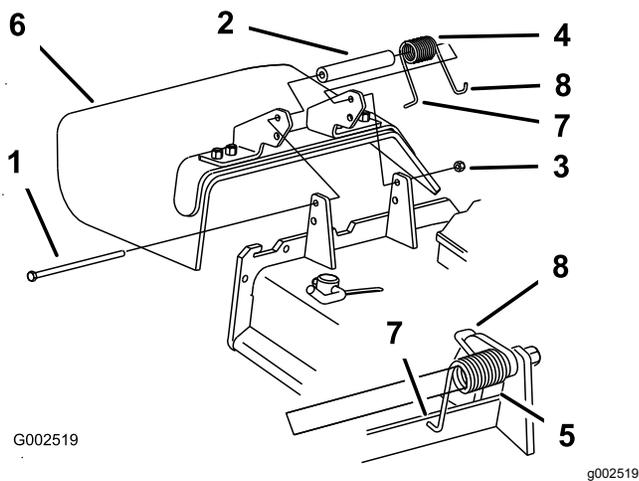

Figure 113
1. Remove the locknut, bolt, spring and spacer holding the deflector to the pivot brackets (Figure 113).
Note: Make sure that the L end of the spring is installed behind the deck edge before installing the bolt as shown in Figure 113
5. Place the J-hook end of the spring around the grass deflector (Figure 113).